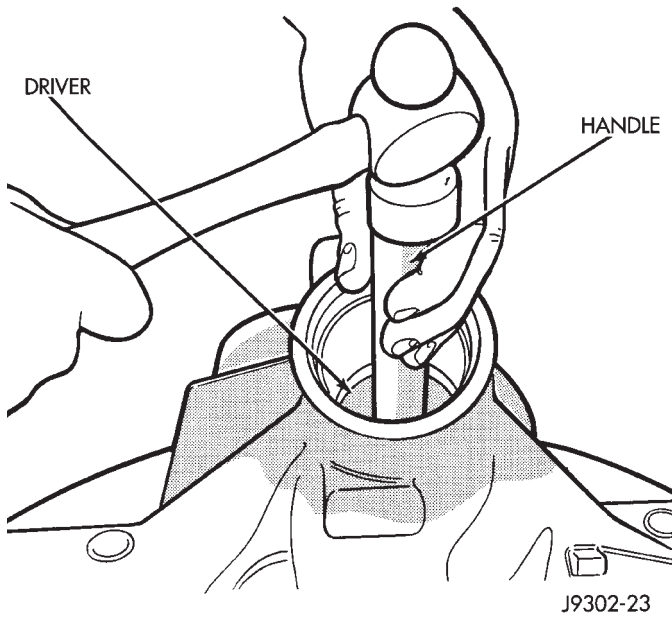

Fig. 20 Rear Bearing Cup Removal
(7) Remove the rear bearing cup from housing (Fig. 20). Use Remover D-148 and Handle C-4171.